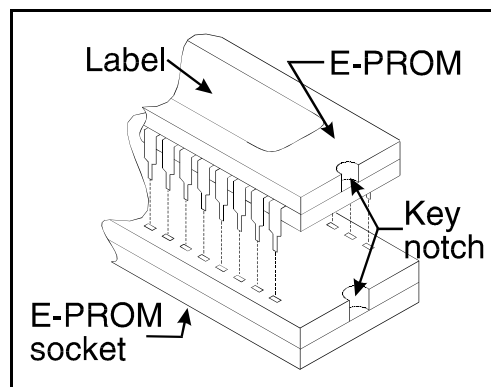

FIGURE 1 (MSSM0217AE)
4. Install new EPROMs, making sure the key notch on the EPROM is properly oriented and that all pins enter the proper holes in the socket (FIGURE 1). If necessary, slightly bend the pins on the EPROMs to align them in the socket. After inserting each EPROM, verify that all pins are seated in the socket.